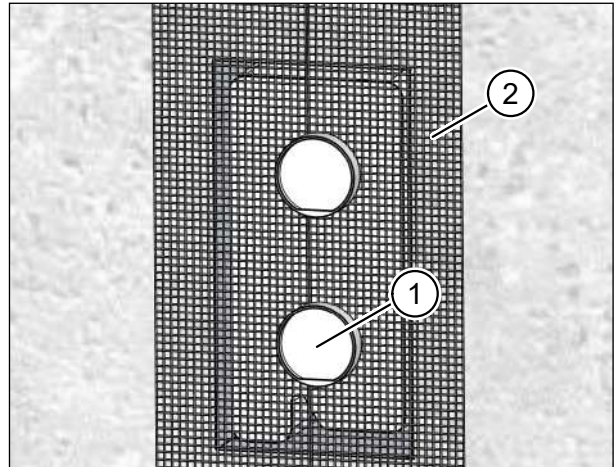
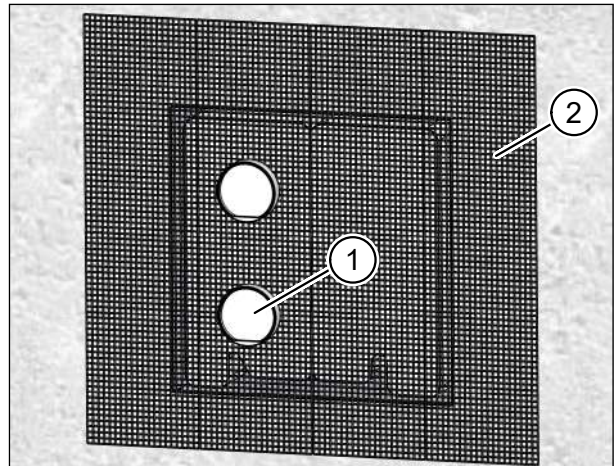

Fig. 24: Plastering the installation kit **without** filler piece
Fig. 25: Plastering the installation kit **with** filler piece
- ▶ Insert the protective sleeves (item 1 in Fig. 24 and Fig. 25). They should extend beyond the solid wall so that they will end flush with the subsequent plaster coat. The protective sleeves provide the bonding surface for the external plaster.
- ▶ Apply the plaster scrim (item 2 in Fig. 24 and Fig. 25) to the outside of the wall box, to the masonry and to the facade insulation.